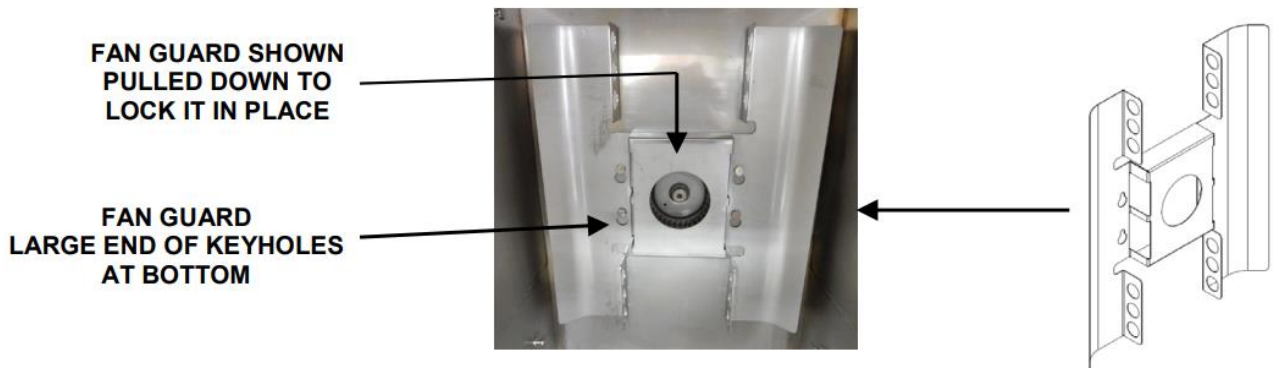

Figure 3-8
3. Pull it down so that the narrow ends of the slots are pulled tight over the mounts. See Figure 3-8.